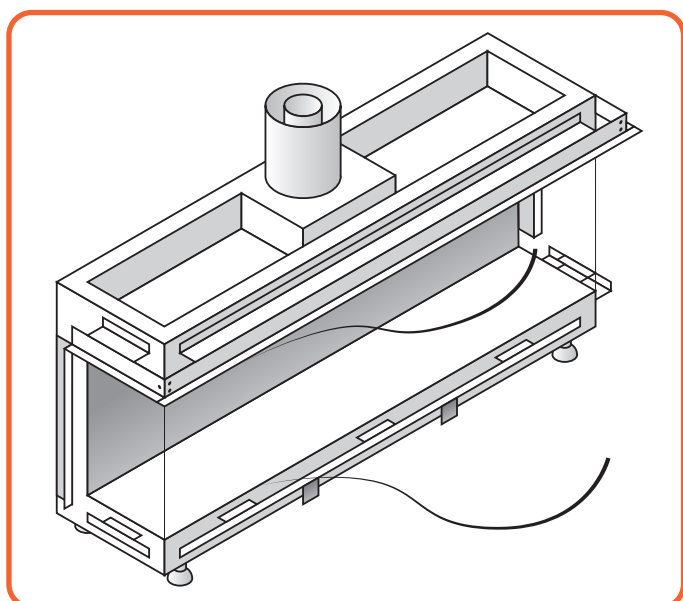

Figure 9.4 | Removing Glass Cords
- Remove the glass cords. (See Figure 9.4)